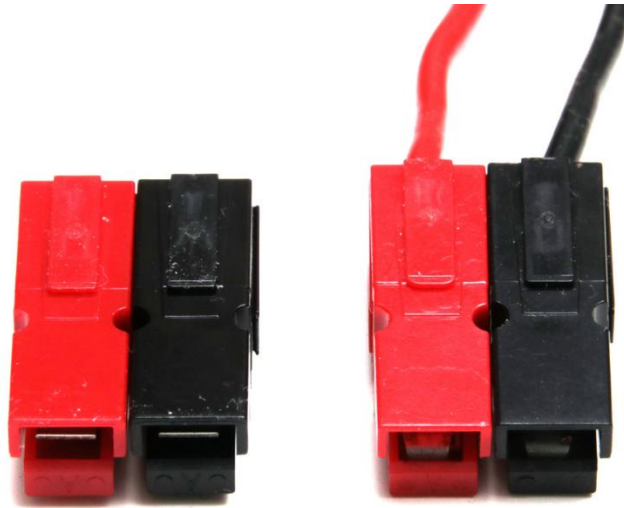

Figure 7. Proper Powerpole polarity to match tunnel wiring.
- There will be a table provided near the tunnel door to hold these electronics enclosures. Figure 7 shows a typical arrangement. Rough distances are shown in the figure, but teams should provide adequate lengths of wire to run from the PCC to accommodate their desired
- To interface with the PCC, wires should be terminated with Anderson Powerpole, PP15-45, or a compatible connector (a red and a black for positive and negative, respectively). See Figure 7 for correct polarity. Incorrect polarity must be corrected before testing and wire color must match the connector housing color. Colored electrical tape on each end of the wire will be considered sufficient color matching if the wire insulation is not colored (e.g., black).